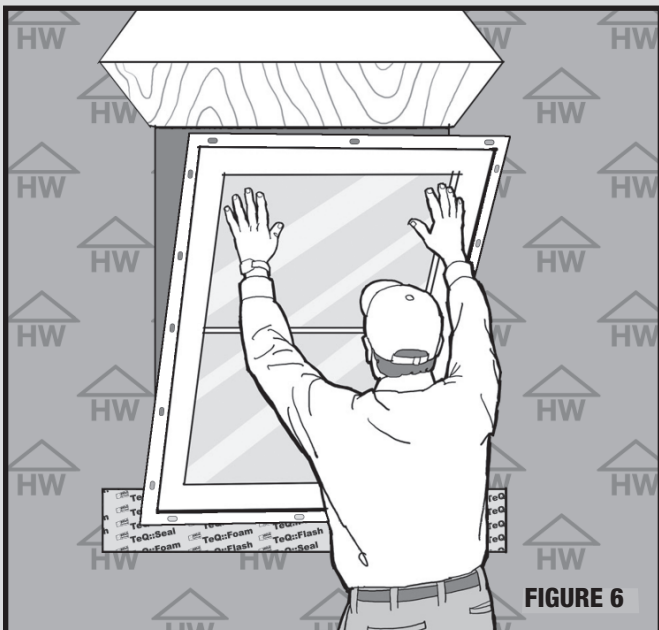

FIGURE 6
3.3.1. Install window into opening within 10 minutes by placing window sill on rough opening sill shims and tilt in header. (Figure 6) Press firmly in place.